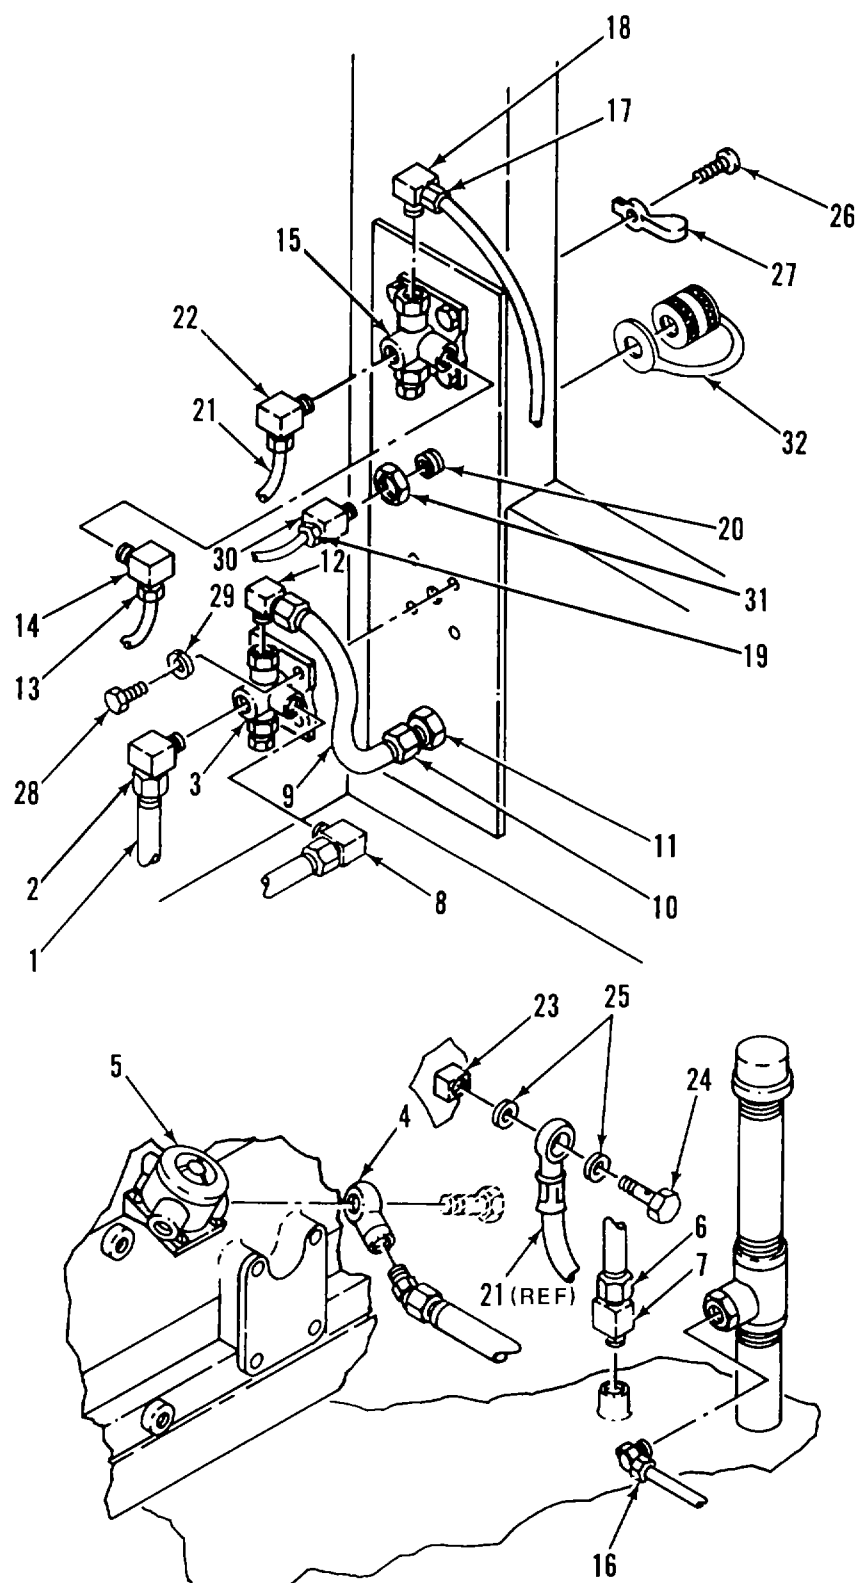

Figure 2-25. Fuel Valves and Lines
a. REMOVE. (Figure 2-25)**(1)** Disconnect fuel lines as follows:
- (b) Disconnect fuel supply line (1) at fitting (2) of fuel selector valve (3) and fitting (4) at engine fuel transfer pump (5). Drain line in suitable container.
- (c) Disconnect fuel supply line (6) at fuel tank fitting (7) and fitting (8) of fuel selector valve (3). Drain line in suitable container.
- (d) Disconnect fuel supply line (9) at fitting (10) of auxiliary fuel supply (11) and fitting (12) of fuel selector valve (3).
- (e) Disconnect fuel return line (13) at fitting (14) of fuel return selector valve (15) and at fuel tank return fitting (16). Drain line in suitable container.
- (f) Disconnect fuel return line (17) at fitting (18) of fuel return selector valve (15) and at fitting (19) of auxiliary fuel discharge (20).
- (g) Disconnect fuel return line (21) at fitting (22) of fuel return selector valve (15). Disconnect other end of fuel return line (21) at No. 1 engine injector fuel return (23) by removing banjo bolt (24) and seal washers (25). Drain line in suitable container.
(2) Remove fuel selector valves as follows:
- (b) Remove screw (26) and handle (27).